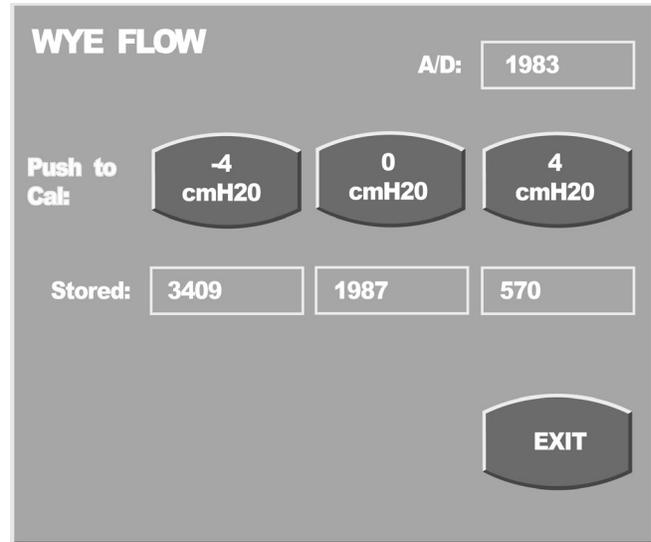

Figure 7.9 Wye flow sensor calibration screen
1. From the Calibration Screen, press WYE FLOW to access the Wye Flow sensor calibration screen. See figure 7.9.